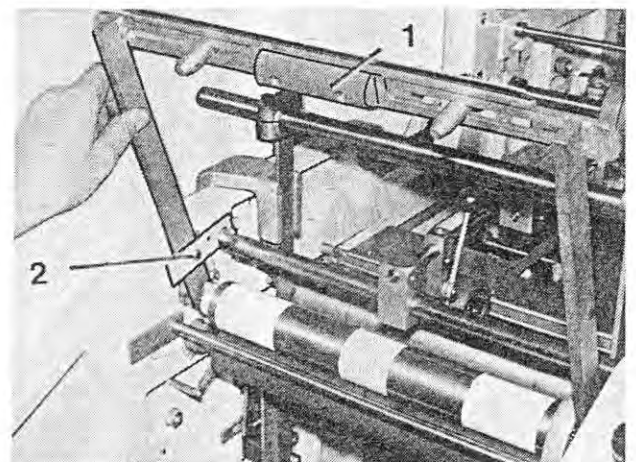

Fig. 89
2. Raise the brake bow (Figure 89/1) until the latch (Figure 89/2) is engaged.